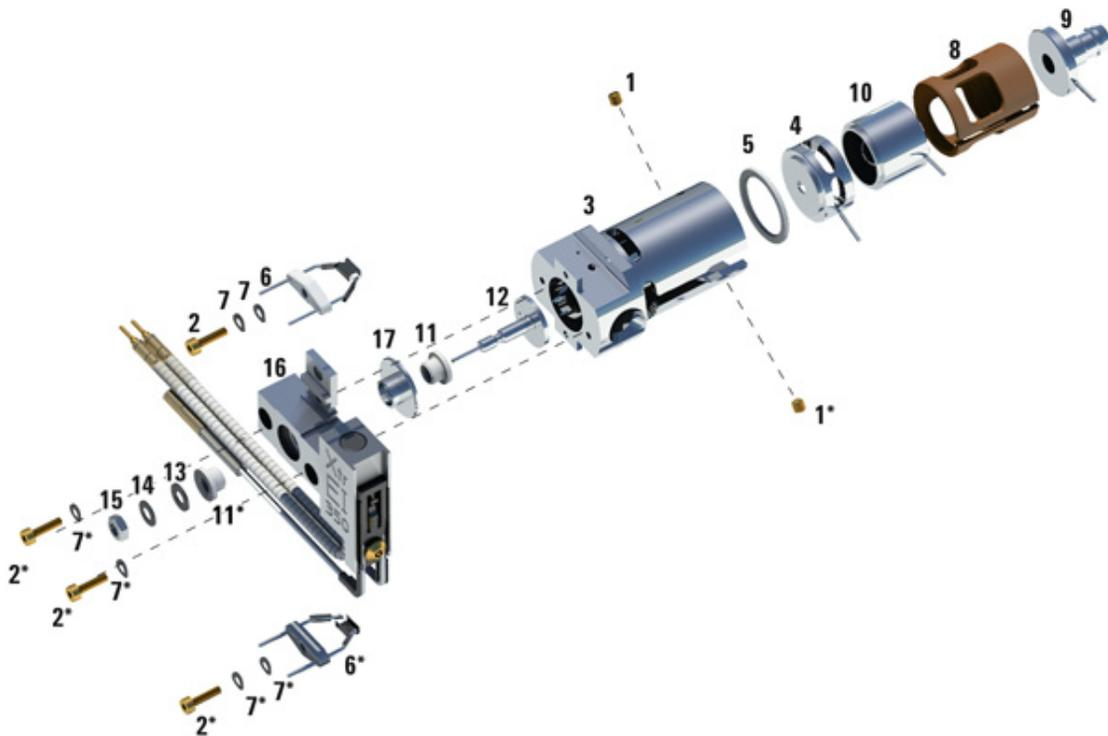

Figure 17 Assembling the extractor EI ion source
- 2 Insert the extractor lens into the source body, flat side first (See Figure 17 on page 114).
- 3 Insert the entrance lens and ion focus lens into the insulator in the order shown (Figure 17 on page 114).
- 4 Slide the insulator containing the ion focus and entrance lens into the source body, with the ion focus lens against the extractor lens (See Figure 17 on page 114).
Table 22 Parts list for the extractor EI ion source (Figure 17)
Table 22 Parts list for the extractor EI ion source (Figure 17) (continued)